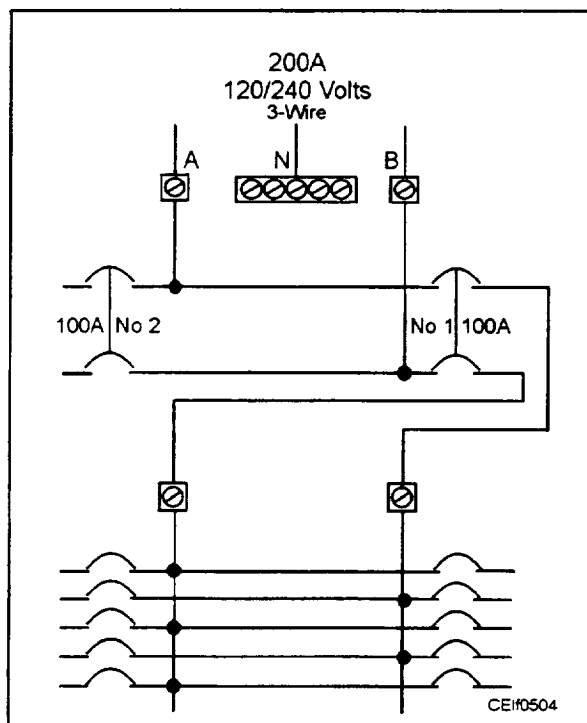

Figure 5-4.—Typical arrangement of a split-bus lighting panelboard.
b. Individual protection is not required where such existing panelboards are used as service equipment in supplying an individual residential occupancy. For example, take a split-bus panelboard in which the line section contains three to six circuit breakers or fuses, none of which are rated 20 amperes or less. In such an arrangement, one of the main overcurrent devices supplies the second part of the panel that contains 15- or 20-ampere branch-circuit devices. The other main overcurrent devices (over 20 amperes) supply feeders or major appliances, such as cooking equipment, clothes dryers, water heaters, or air-conditioning equipment (fig. 5-4). This arrangement is permitted only for existing panelboards in existing individual residential occupancies.
Service-equipment panelboards, for loads up to 800 amperes, containing six or fewer main fused switches, fused pullouts, or circuit breakers are available. These panels constitute service equipment and frequently contain split buses that supply branch circuit or feeder overcurrent devices installed in the same enclosure (figs. 5-4 and 5-6).